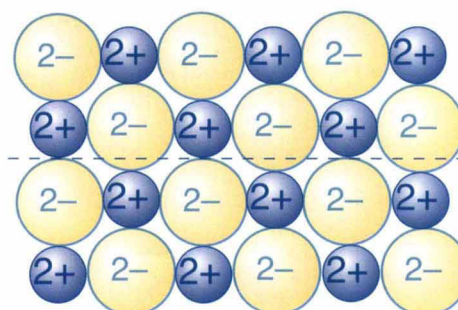

Figure 6 A giant ionic structure
- Q8.** This question helps you explore why most types of stone are brittle. This is to do with the fact that most types of stone are made of ionic compounds. Take marble (calcium carbonate, CaCO_3) as an example; calcium carbonate consists of a giant structure made up of alternating Ca^{2+} and CO_3^{2-} ions, see Figure 6. Notice that positive ions are always surrounded by negative ions and vice versa. The structure is held together by the attraction of these oppositely charged ions with each other.
- A small force can make one layer of ions slide past the next layer. Redraw Figure 6 to show the ions above the dotted line each moving one ion to the right while the ones below the line stay in the same position.